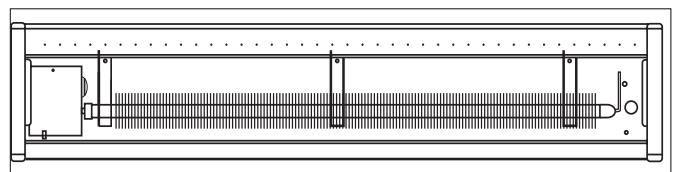

Figure 5
3. Remove wiring compartment cover, held by one screw. (Figure 5).